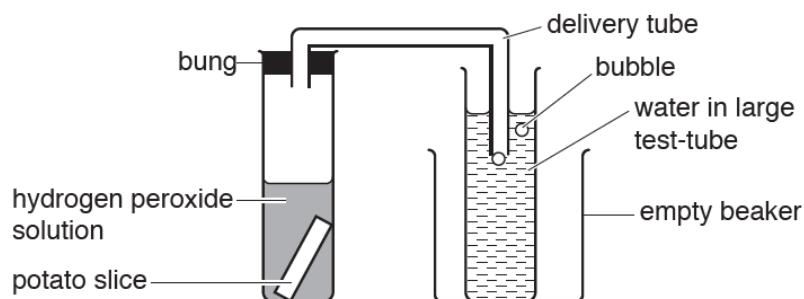

Fig. 1.3
- Step 5 The student immediately placed the rubber bung attached to the delivery tube into test-tube 1 and pushed it in as tightly as possible, as shown in Fig. 1.3.